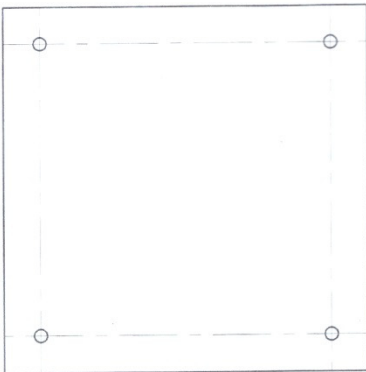

figure 3.1.4a – Incorrect fastener spacing similar to steel liners
- ❌ Incorrect fastener Spacing (see figure 3.1.4a & 3.1.4b);